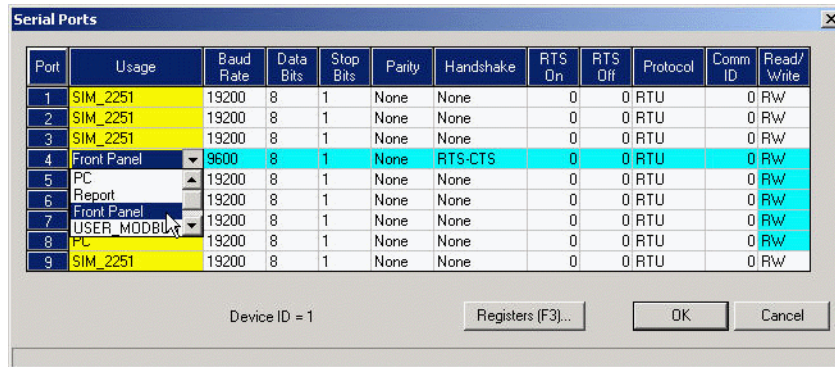

Figure G-6. MON2000 Serial Port 8 Front Panel Configuration with COM4A Board Installed
- (k) With COM4A Boards installed, Serial Port 8 is usually assigned via MON2000 Application>Serial Ports menu path. Select Front Panel from the Usage pull-down menu (see Figure G-6 and G-7 below).